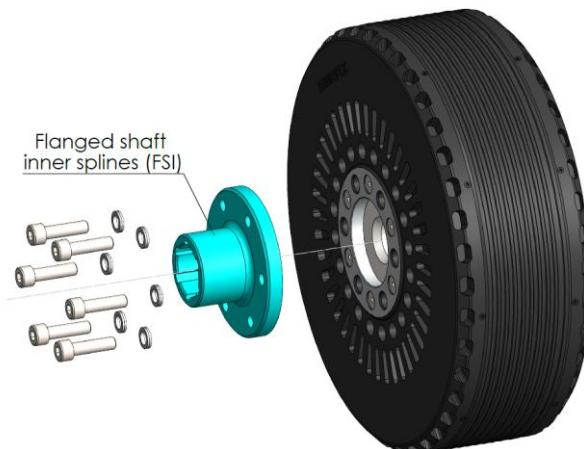

Figure 19: FSI assembly, FSI marked in blue
- A factory flanged shaft with inner splines (FSI), see *Figure 19*.